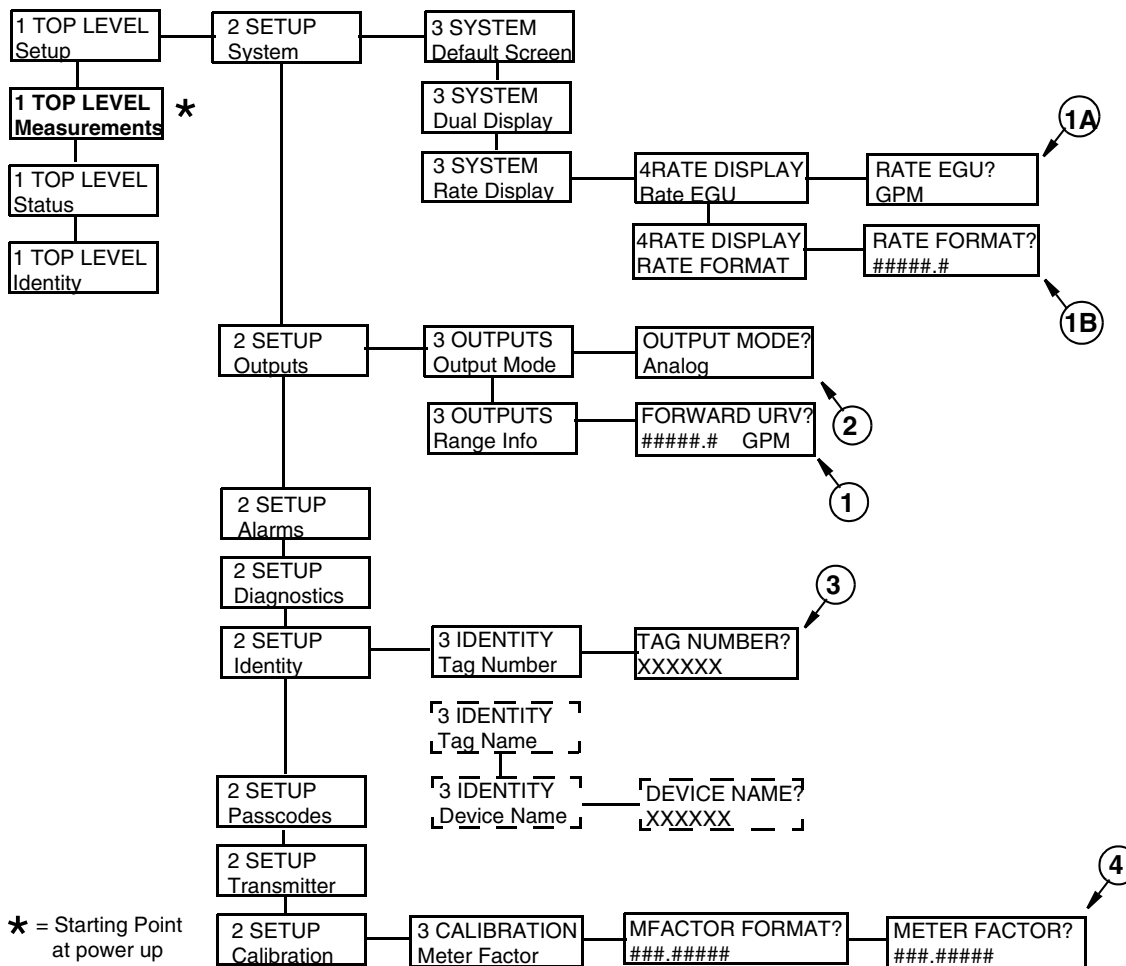

Figure 1. Example of Changing Configured Selections and Values
1. First, enter your URV (150 GPM in the example). To do this, use the arrow keys to move the display to location 1 in Figure 1. The curly brackets around the URV {####.##} indicate that the value is editable. Notice the rate units and the rate format (number of places to the left and right of the decimal point). To change the units, go to location 1A. To change the format, go to location 1B. If both of these settings are acceptable, enter the URV as follows:
2. Next, check the **Output Mode** setting (**Analog** or **Digital**) shown in location 2 of Figure 1. Change if necessary.
3. If the **Output Mode** is configured as **Analog**, it can be helpful to enter a unique **Tag Number**. This puts a digital identifier on the mA loop which provides a means of positive identification at locations remote to the transmitter. Do this at Location 3 of Figure 1.
4. Next, enter the meter factor. To do this, use the arrow keys to move the display to location 4 in Figure 1. Determine the meter factor by looking for an “IMT96 Cal Fact” number on the flowtube data plate. Use this number as the meter factor. If “IMT96 Cal Fact” does not appear on your flowtube, refer to MI 021-412 for information on converting any other factor on the data plate to a factor suitable for the IMT96 transmitter.